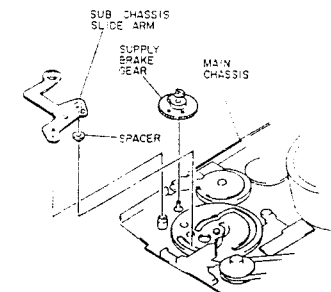

Fig. 2-62
- 1) Pull out the sub chassis slide arm and spacer from the main chassis. (See Fig. 2-62)
- 1) Pull out the supply brake gear from the main chassis. (See Fig. 2-62)